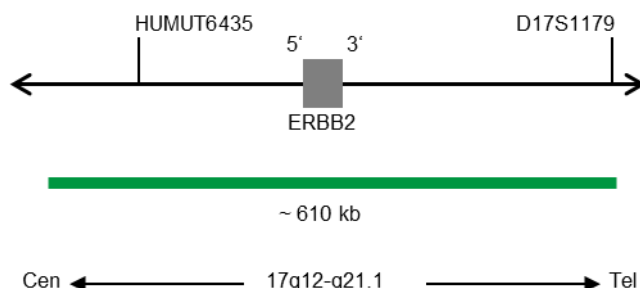

Fig. 1: ERBB2 probe map (not to scale)
- ZyGreen (excitation 503 nm/emission 528 nm) labeled polynucleotides (~10.0 ng/ μ l), which target sequences mapping in 17q12-q21.1* (chr17:37,572,531-38,181,308) harboring the ERBB2 gene region (see Fig. 1).